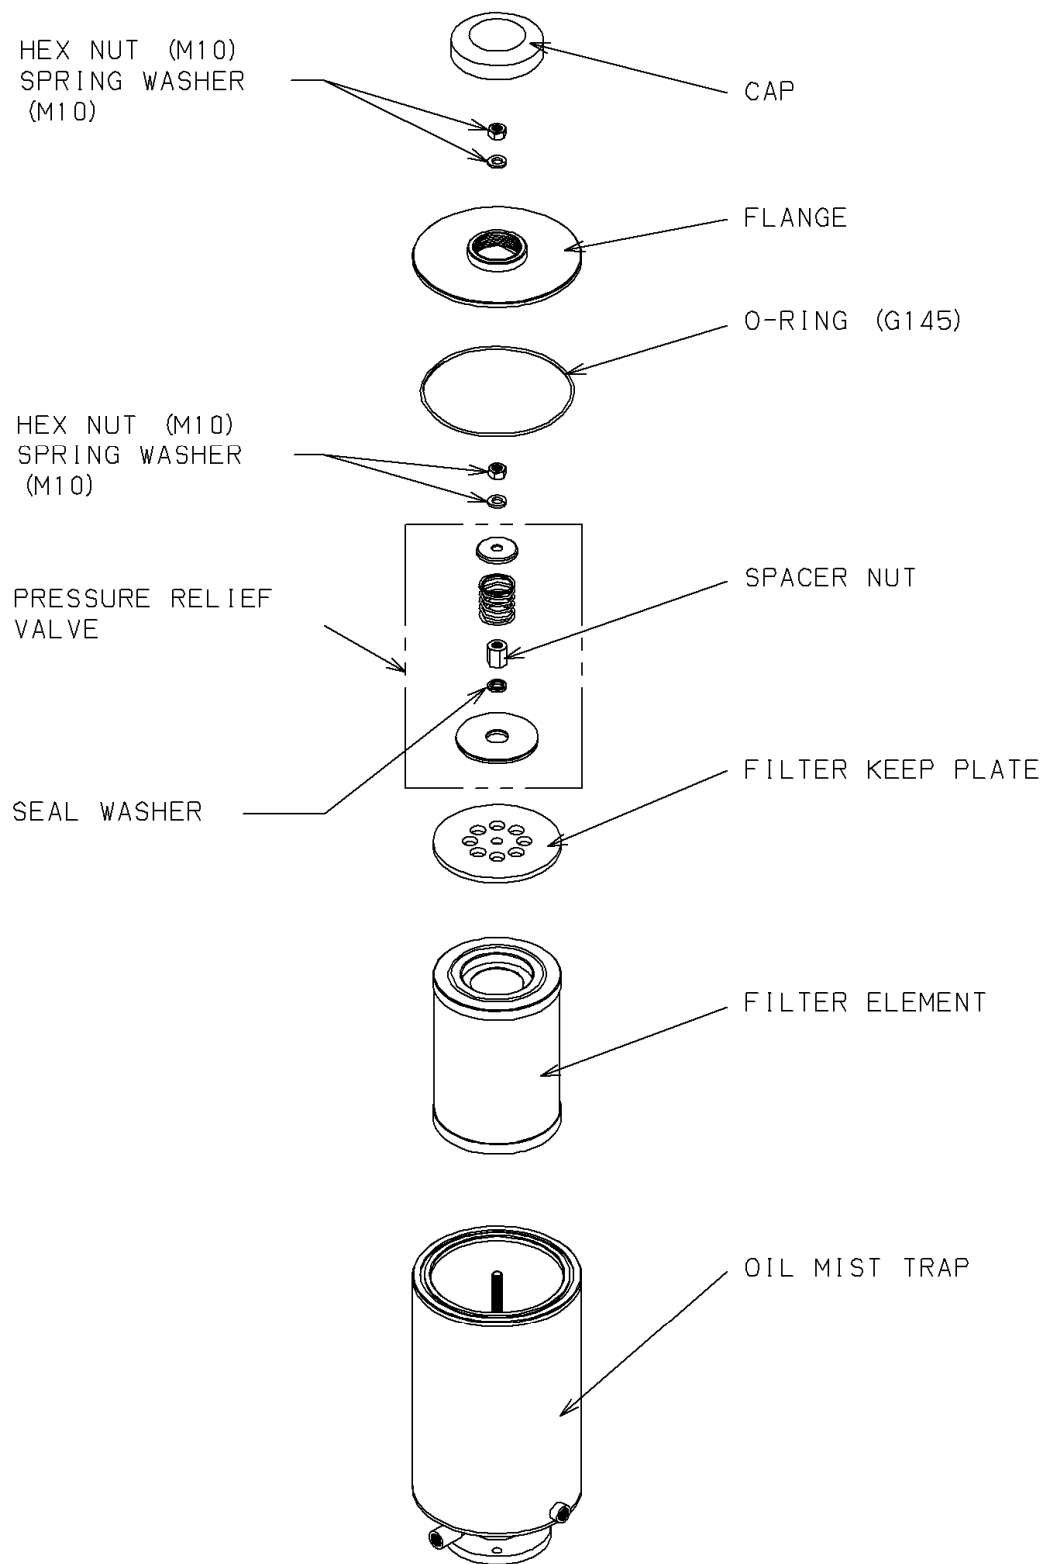

Fig.5 Exploded view of filter element
4.2 Replacing the Filter Element (Refer to Fig. 5)